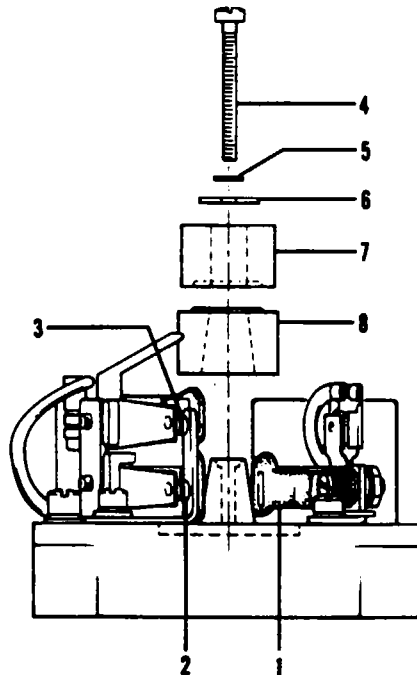

Figure 8-19. Cam End View of Magneto
- m. If breaker timing is not correct, loosen cam securing screw (refer to Figure 8-19) and remove retard cam; then unseat main breaker cam from taper. Using 11-3031 Retaining Ring Pliers inserted in holes in cam, rotate main breaker cam in direction of rotation until left main breaker points just open and press cam onto taper. Install retard cam washer and screw. Tighten screw to seat main breaker cam.